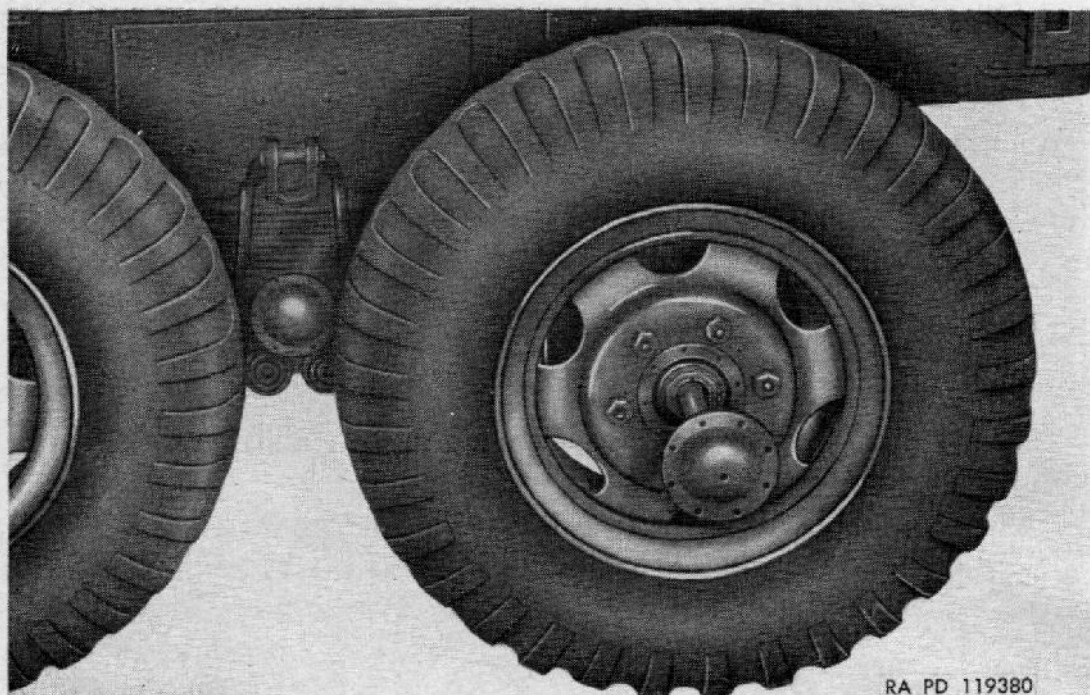

Figure 97. Rear axle shaft replacement.
(fig. 97)
a. REMOVAL. Axle shafts are full floating type with flanges forged at the outer ends. The axle shafts transmit the driving force from the differential to the wheels. Flanges are attached to the hubs by cap screws and the inner ends of the shafts are splined to the differential-side gears. Remove eight cap screws and lock washers attaching drive flange to hub. Withdraw shaft from hub by pulling on flange (fig. 97). Remove and discard gasket.